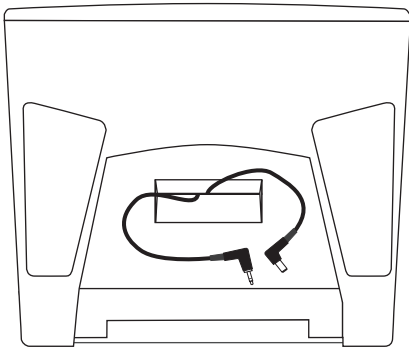

figure 1
As shown in figure 1 on the left, the top panel of the Expedition EXL250, XPL200 and XPL300 provides a pre-wired compartment that accommodates any of three different Samson wireless receivers: the UM1 or AM1 UHF models. Output signal from a wireless receiver mounted in an EXL250 arrives at channel 2 of the onboard mixer.
- 1 Remove the Wireless Compartment Cover by lifting it off the compartment located on the top of the Expedition. (see figure 1)